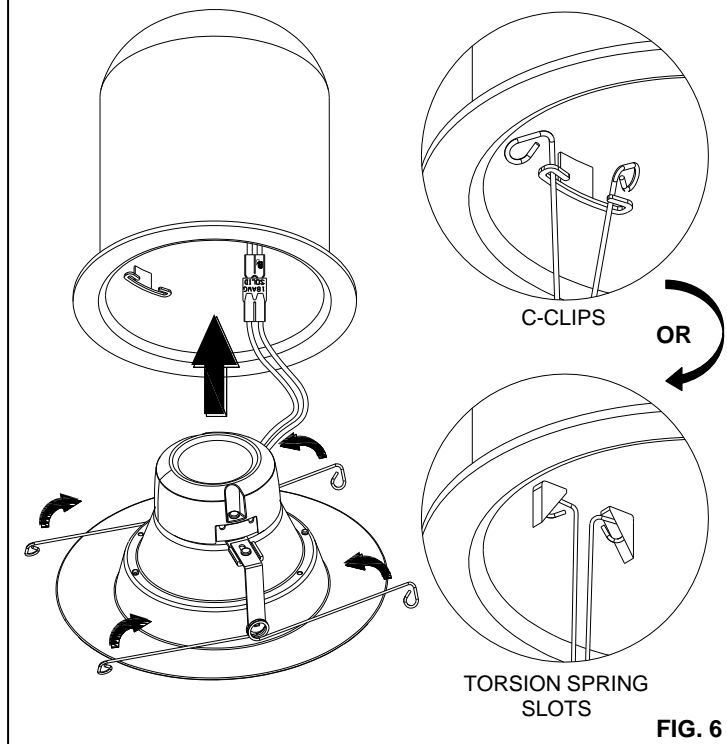

FIG. 6
4. Squeeze both TORSION SPRING arms together and insert into the TORSION SPRING SLOTS (or C-CLIPS) of the CAN. **(FIG. 6)**
2. Squeeze both TORSION SPRING arms together and insert into the TORSION SPRING SLOTS (or C-CLIPS) of the CAN. **(FIG. 6)**